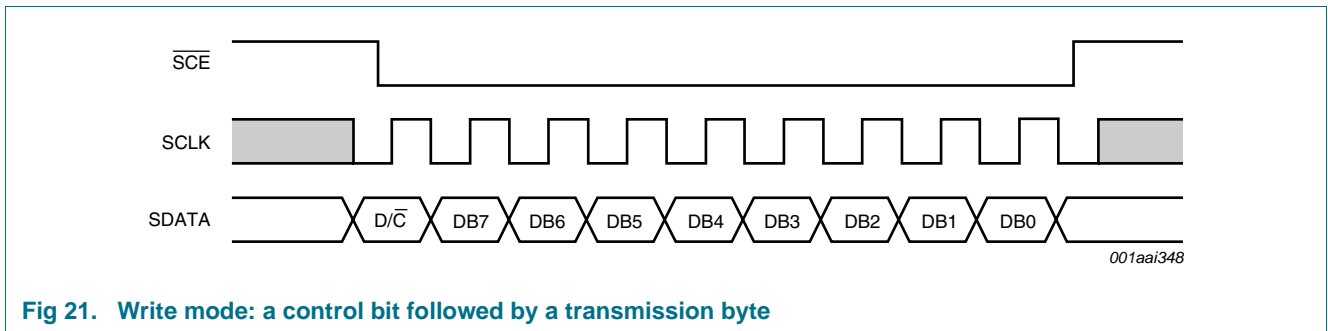
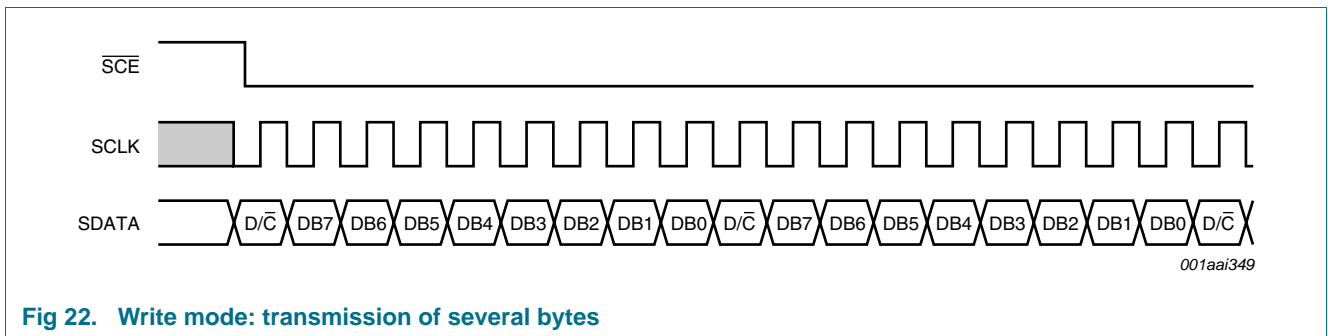
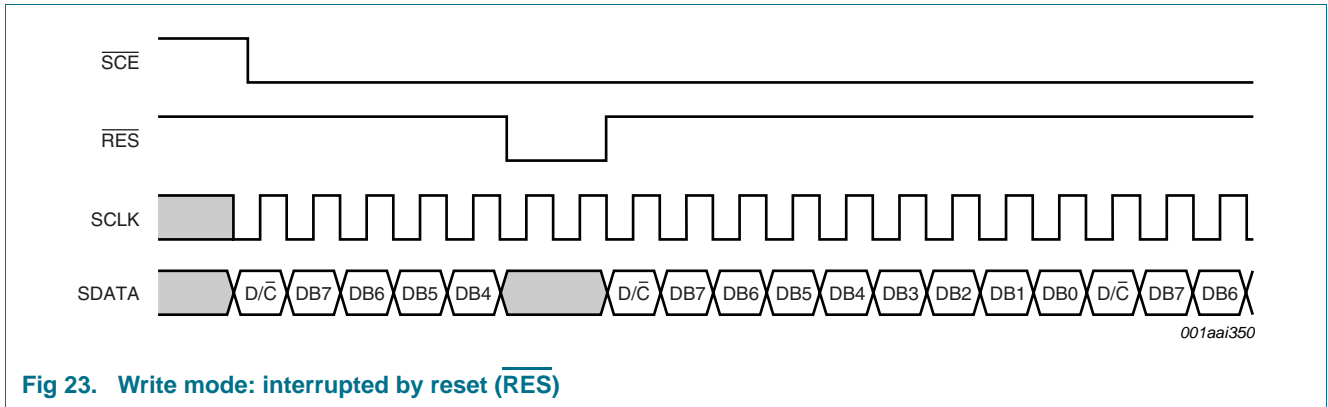

Fig 21. Write mode: a control bit followed by a transmission byte
Fig 22. Write mode: transmission of several bytes
Fig 23. Write mode: interrupted by reset (\overline{RES})
Figure 21, Figure 22 and Figure 23 show the protocol of the write mode:
- If \overline{SCE} stays LOW after the last bit of a data/command byte, the serial interface receives the $\overline{D/C}$ bit of the next byte on the next rising edge of SCLK; see Figure 22
- A reset pulse \overline{RES} interrupts the transmission. The data being written into the RAM may be corrupted. The registers are cleared. If \overline{SCE} is LOW after the rising edge of \overline{RES} , the serial interface is ready to receive the $\overline{D/C}$ bit of a data/command byte; see Figure 23.